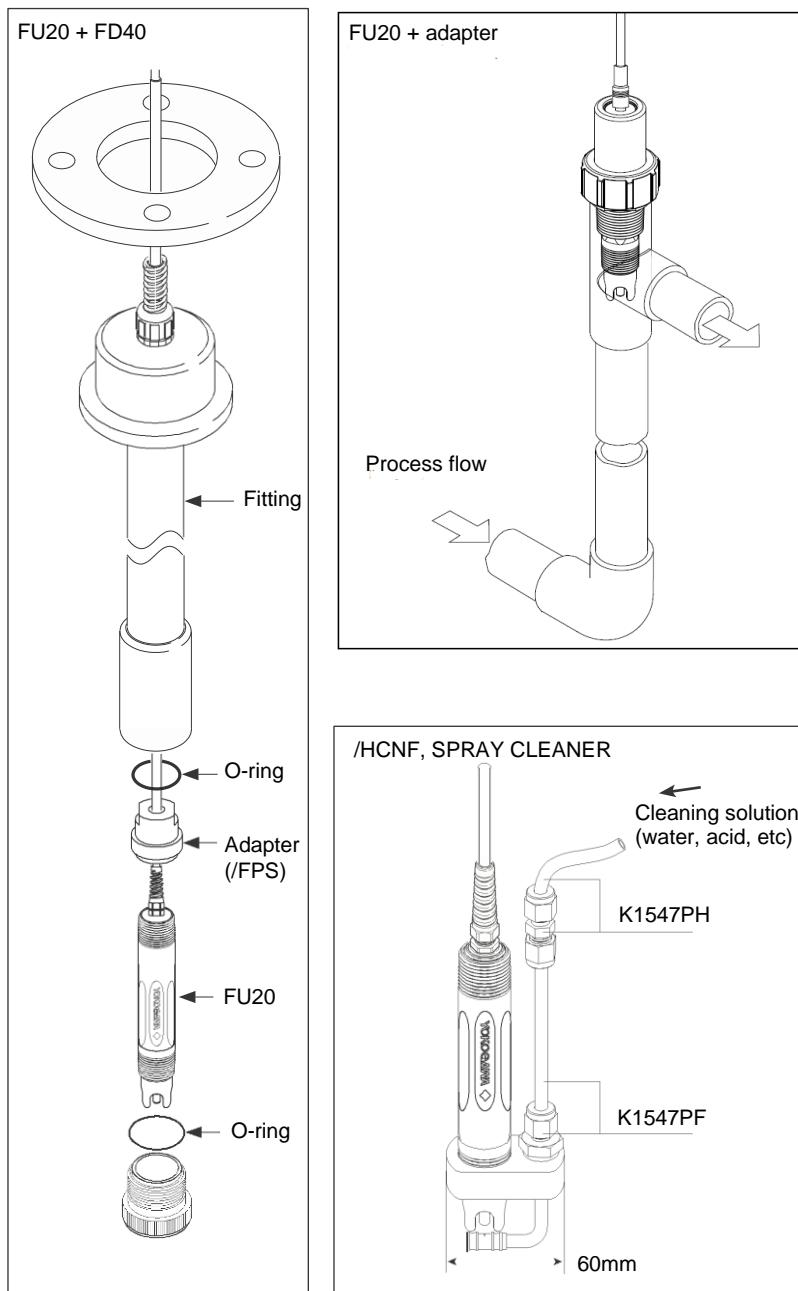

Figure 6: Installation examples for the FU20
7. Other mounting examples of the FU20-FTS/MTS are given in Figure 6 and 7.